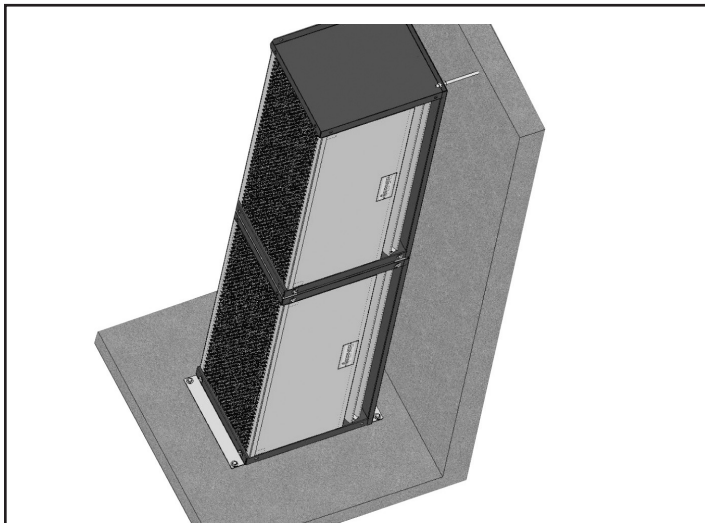

FIGURE 7 - Increased Stability for Vertical Mounting
- E. To improve the stability of the installation, it is required that the top of the unit be attached to the wall. A common approach is to attach a minimum length of $\frac{3}{8}$ " threaded rod through one of the open mounting holes in the top end plate and affix the other end of the rod to the wall. **See Figure 7.**